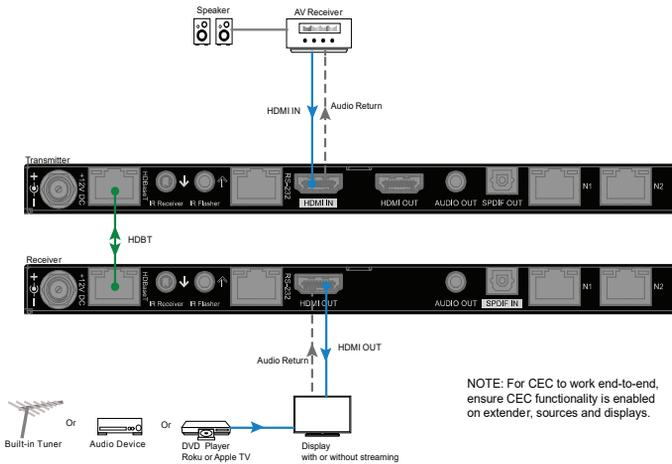

Figure 1: To return HDMI ARC from TV to AVR
- Set Pin1 of receiver (RX) to “up”, ARC mode. RX HDMI ARC will be returned through HDBaseT link to TX connected AVR. In this case, AVR HDMI out is connected to TX HDMI IN. See Figure 1.